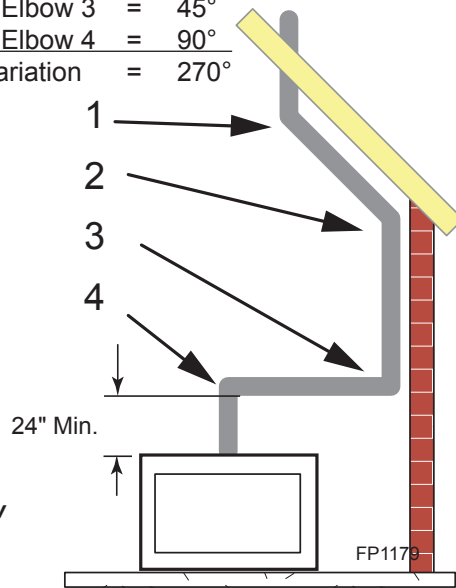

**Figure 22 -
- Two sets of 45° elbows offsets may be used within the vertical sections. From 0 to a maximum of 8' (2.5 m) of vent pipe can be used between elbows. *Figure 22*
- The maximum angular variation allowed in the system is 270°. *Figure 22*
NOTE: Pay special attention to these installation instructions for required clearances (air space) to combustibles when passing through ceilings, walls, roofs, enclosures, attic rafters, etc. Do not pack air spaces with insulation. Also note maximum vertical rise of the venting system and any maximum horizontal offset limitations. Offsets must fall within the parameters shown in Figures 22 and 23.